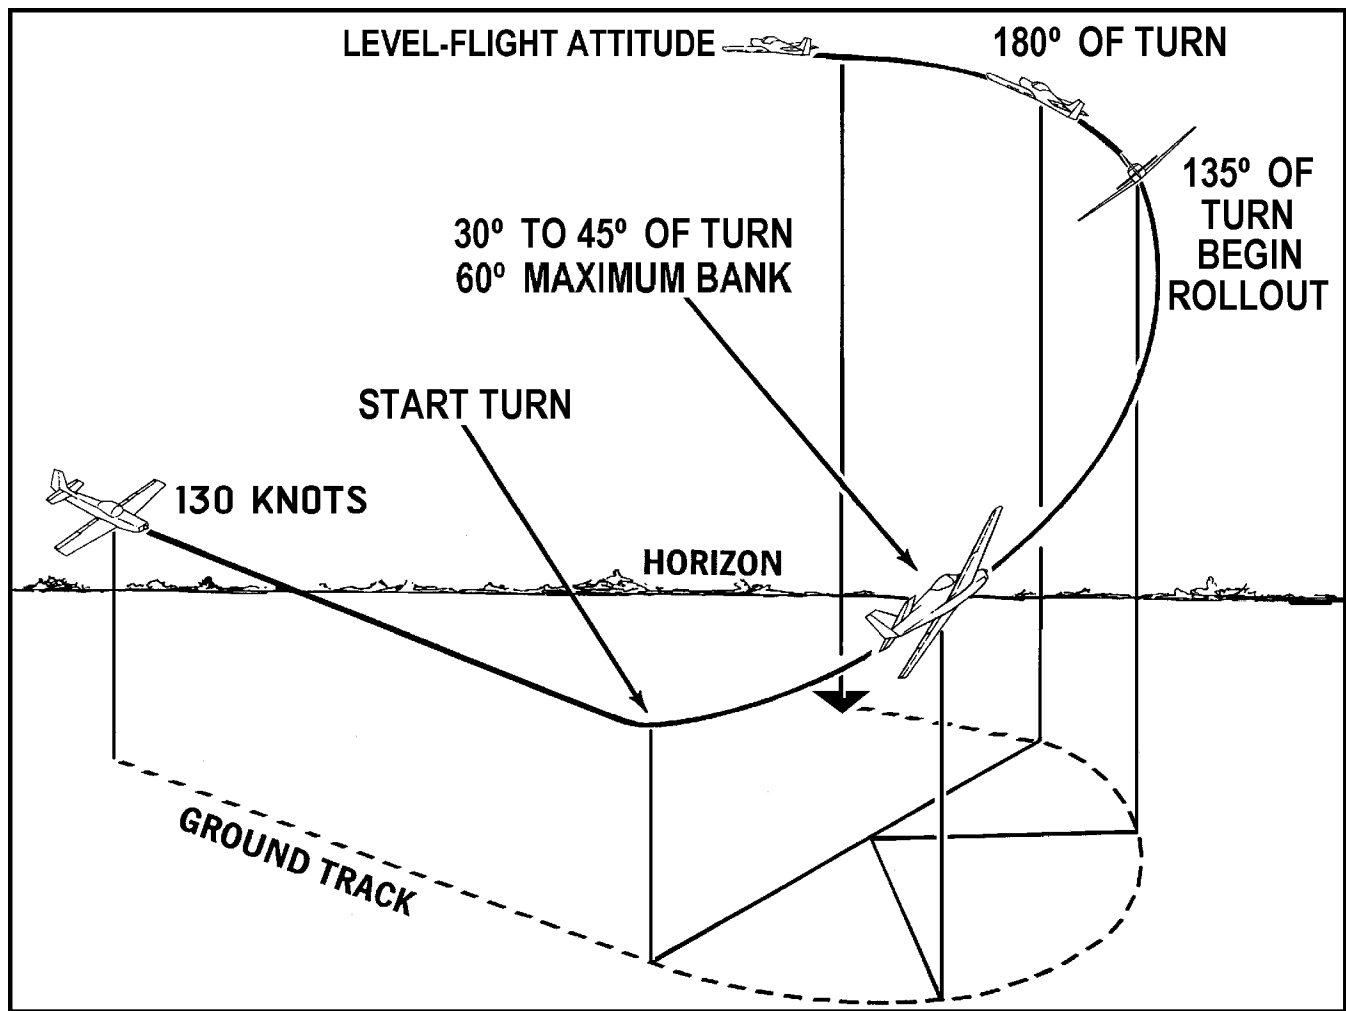

Figure 5.5. Chandelle.
**5.18. Chandelle.** The chandelle is a precision 180° steep climbing turn with a maximum gain of altitude (figure 5.5). Use full power for the maneuver.